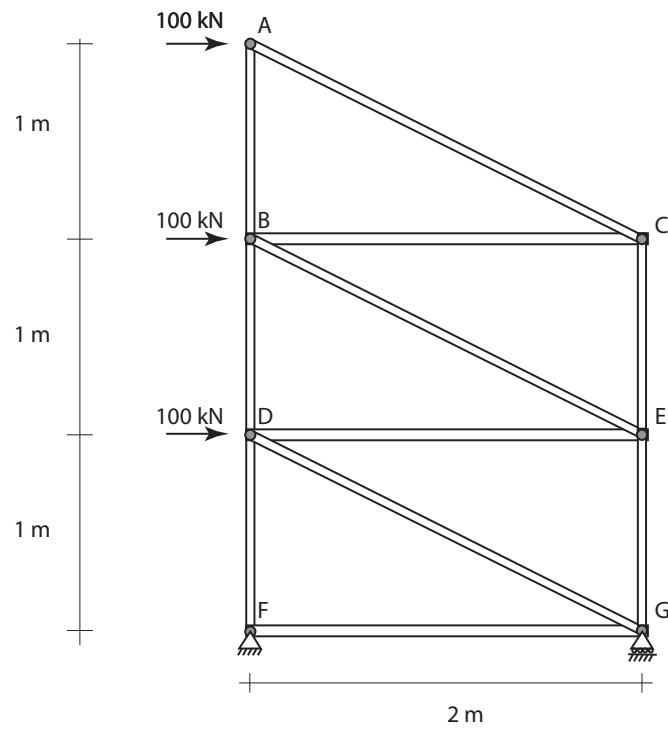

Figure 16: Problem 16.
16. For the truss in Fig. 16 determine the forces in bars BD and DE.